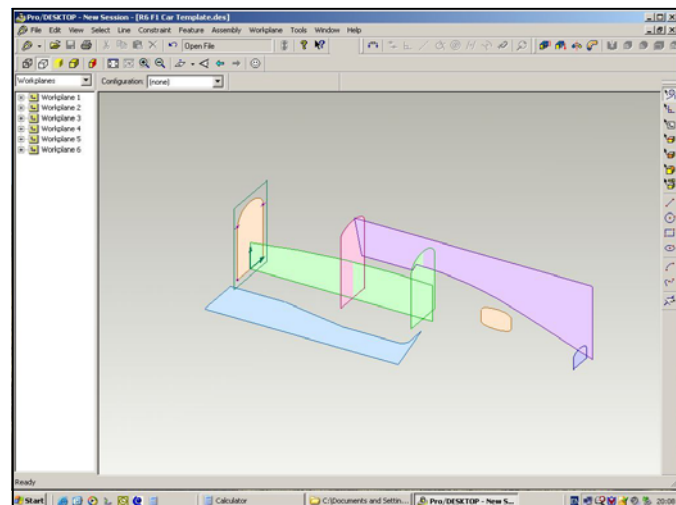

Figure 2 - The Car Template View
- 2) Maximize the window by clicking the square at the upper right corner of the screen. Then zoom to view the full template in Figure 2.